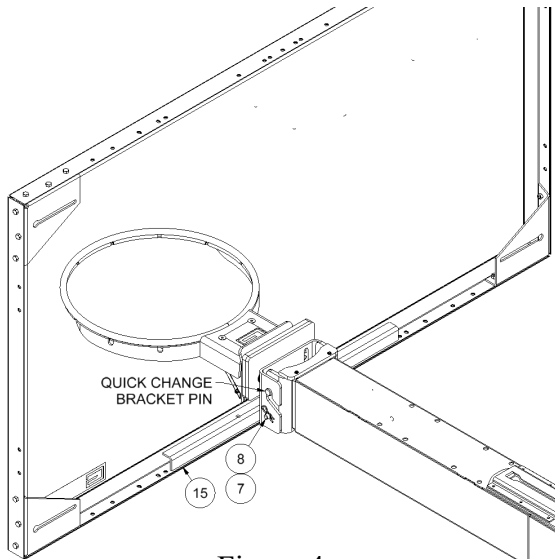

Figure 4
- Position the backboard and goal assembly with the slots of the Quick Change bracket onto the Quick Change Bracket Pins on the main boom as shown in figure 4,5, and 6. Slide the board assembly completely onto the pins and insert the Quick Change Locking Rod, item 8, through the slots and holes in the board and boom brackets. Secure the locking rod with the Hitch Pins, item 7.